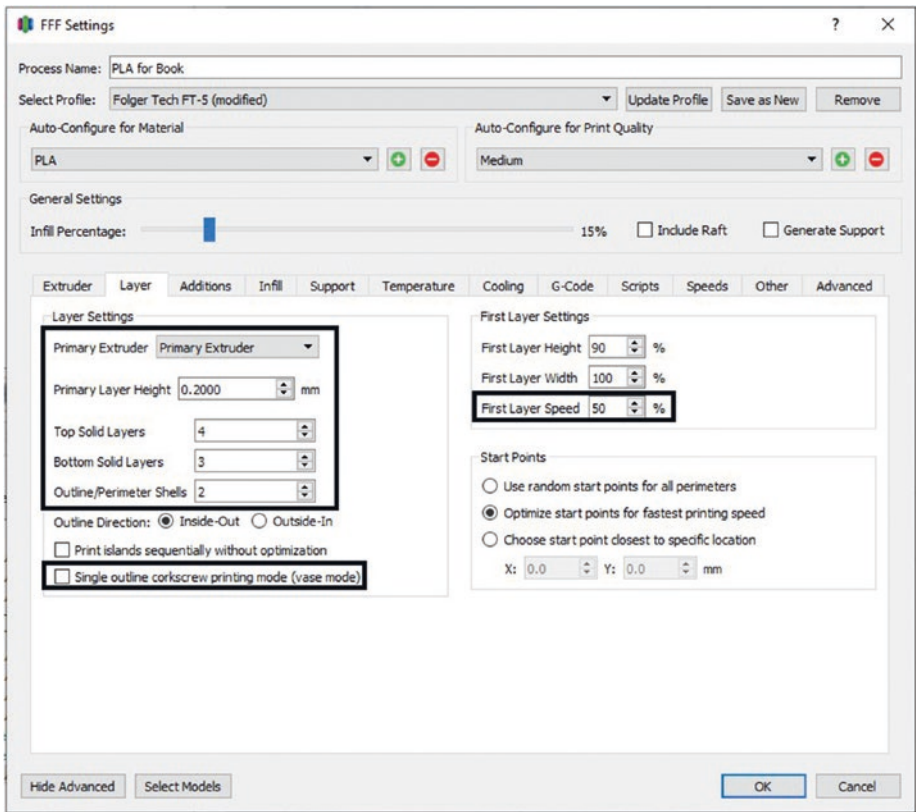

Figure 4-20. Layer tab
2. Tab 2: Layer (see Figure 4-20)